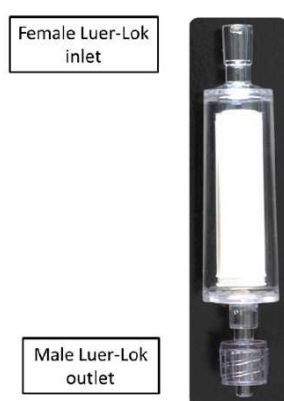

Figure 1: Position of the two tips of the Sterivex™ filter unit
- 1 Take the Sterivex™ filter unit (previously stored at **-20 °C** after filtration). **Remove the Inlet Cap** (Figure 1) and **add 0.9 mL of Solution ST1B** using a pipette tip.